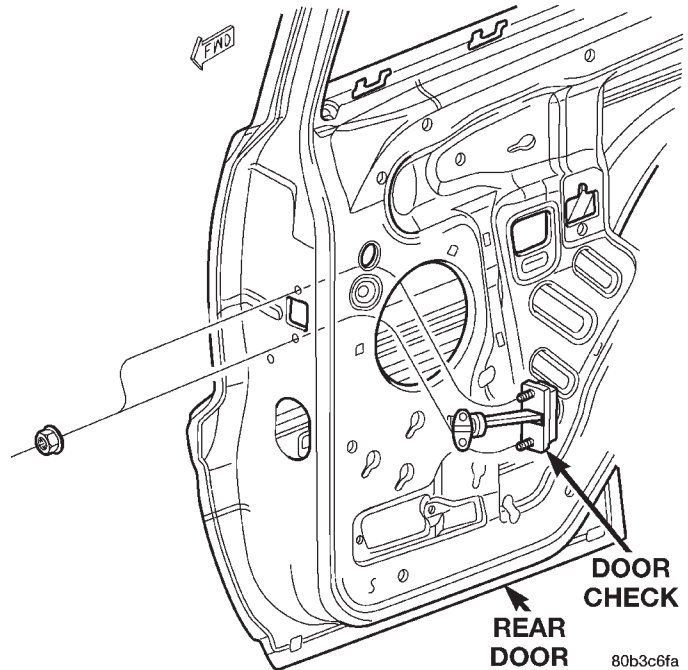

Fig. 37 Door Check
- (1) Remove trim panel.
- (2) Remove waterdam.
- (3) Remove speaker.
- (4) Remove screws attaching door check to B-pillar.
- (5) Remove nuts attaching door check to door (Fig. 37).
- (6) Remove door check through speaker location hole.